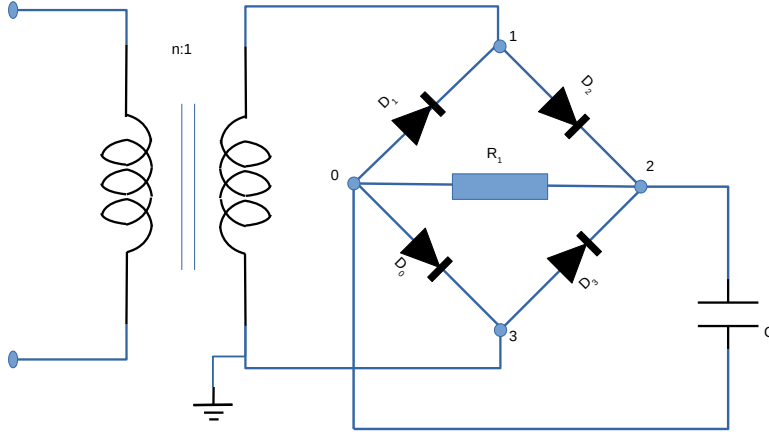

Figure 2: Envelope Detector Circuit.
As seen in figure 2, the envelope detector part of the circuit consists on a full wave bridge rectifier, a resistor (R_{ef}) and a capacitor (C), the last two in paralell. To reach the minimum ripple possible, we can increase the resistor impedance and the capacitor capacity, so that the time constant τ of the capacitor discharge is high enough ($\tau = RC$). Another method was to use a full wave rectifier, as said above, since the time of discharge of C is half of what it would be using a half wave rectifier. This part of the circuit was used to envelope the V_{in} sinusoidal wave, being V_{in} achieved from the following equation.